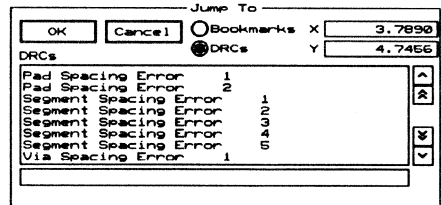

Figure 7-7. The **Jump To** dialog box, showing design errors.
2. Select **DRCs** to display all design errors in the **DRCs** list box, as shown in figure 7-7.